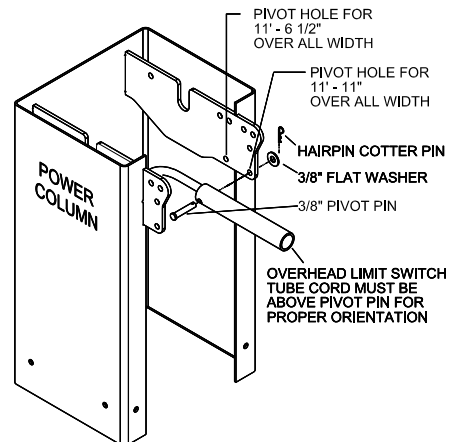

Fig 4a – Overhead Limit Switch Sub-Assembly
- 15) Install Overhead Limit Switch to **REAR** of Power Column using (1) 3/8" pivot pin, (1) 3/8" flat washer and (1) hairpin cotter pin as shown below. Switch **MUST** pivot freely on pin for proper function. **NOTE** switch tube cord is to be oriented **above** pivot pin as shown in **Fig 4a**. Leave switch cord hanging at this time.